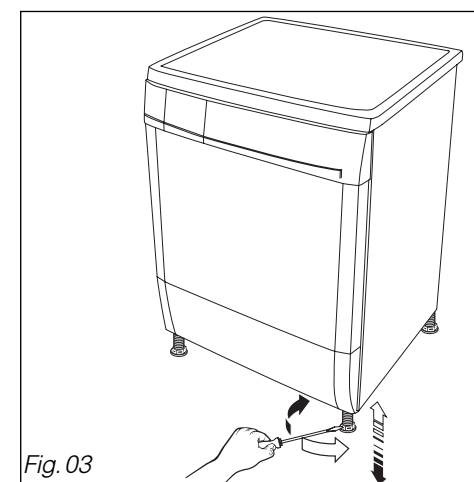

Fig. 03
- Your dryer is fitted with 4 adjustable feet (Fig.03). To adjust the stability and levelness :
- Screw one or more of the feet in or out using a spanner or a screwdriver to adjust their height to suit the shape of the floor (Fig.03)